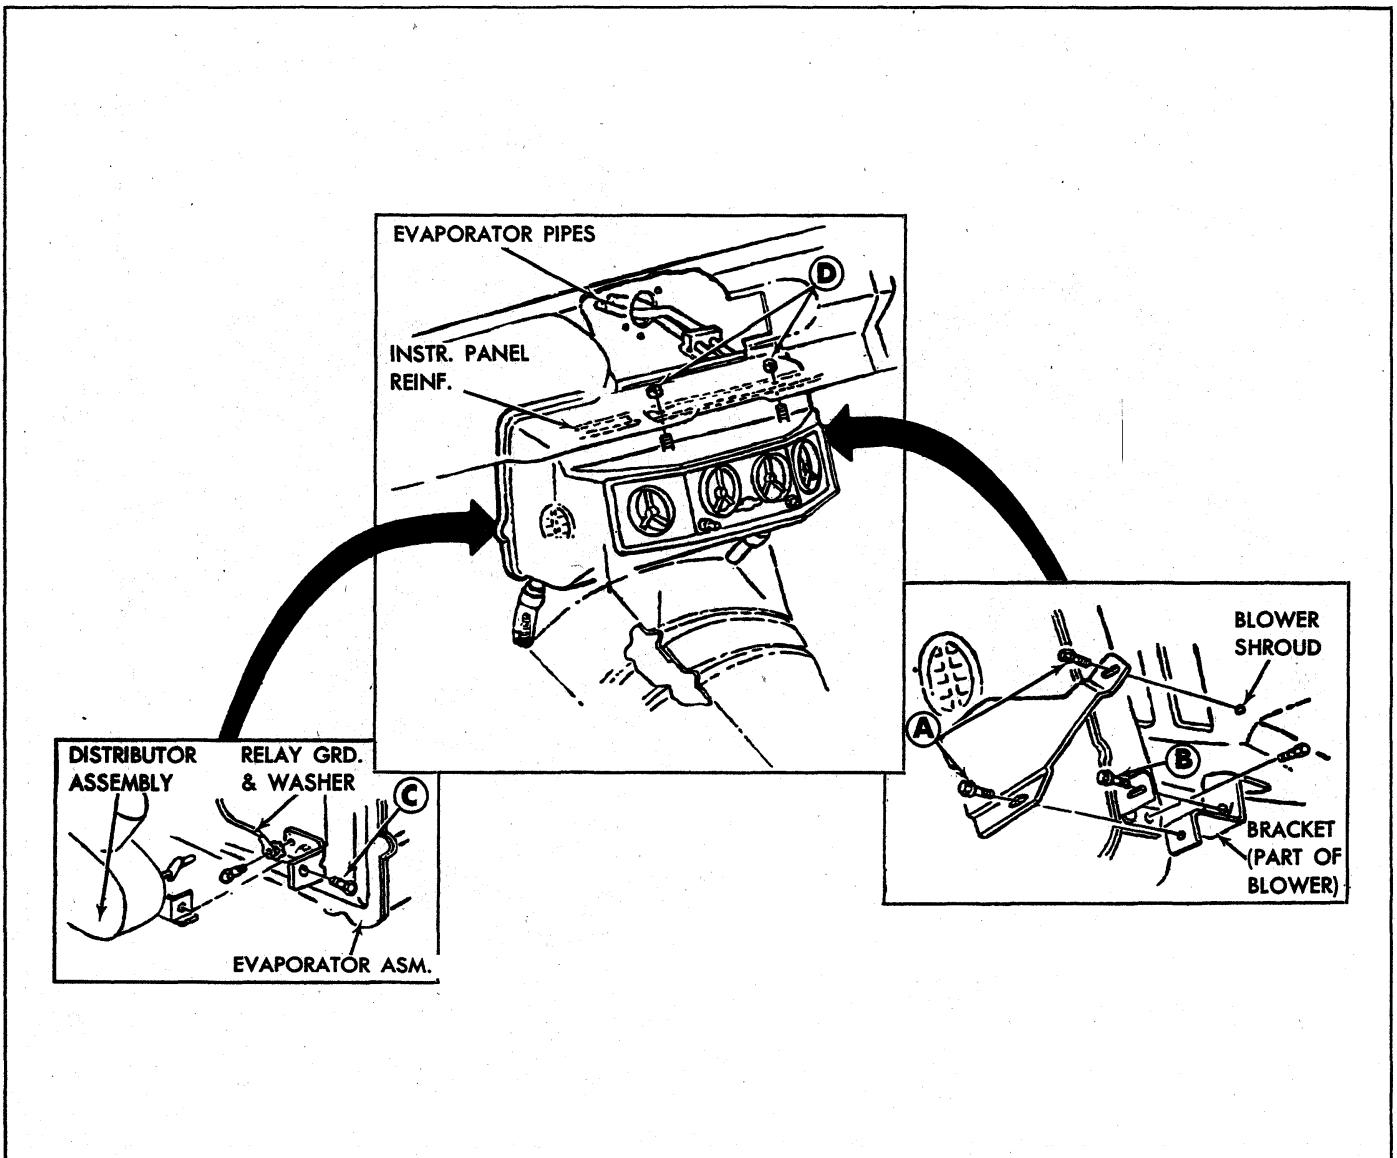

Fig. 76—Evaporator Removal—All Weather
6. Remove the two shield attaching screws and shield (A, fig. 76) which covers the lower right evaporator bracket-to-blower bracket attaching screw (B, fig. 76), then remove this screw.
7. Behind the lower left side of the evaporator, remove the evaporator bracket-to-heater distributor bracket attaching screw (C, fig. 76).
8. Reaching through the glove box door and ash tray openings, remove the two nuts and washers (D, fig. 76) attaching the evaporator assembly studs to the lower instrument panel flange and reinforcement.